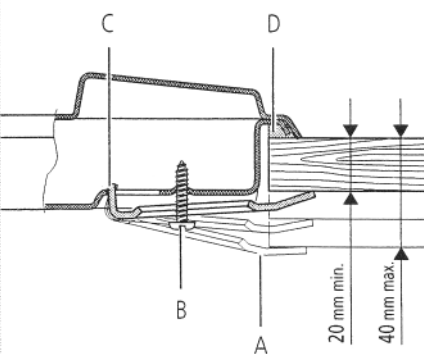
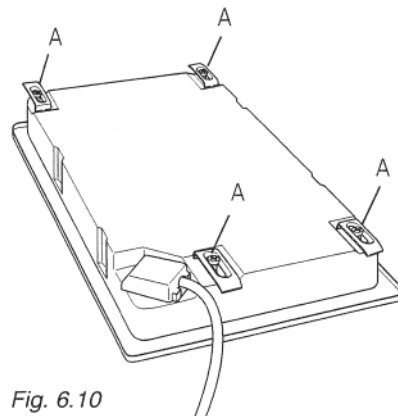

Fig. 6.11
Fig. 6.10
Each cooker top is provided with an installation kit including brackets and screws for fastening the top to fixture panels from 20-30 to 40 mm thick, figs. 6.11 (2 electrical plates hob).
- Turn the cook top over and put tabs "A" (fig. 6.10) into the mountings, only tighten screws "B" a few turns. Make sure that the tabs are mounted correctly as shown in the figures 6.11 and 6.12. Turn the tabs so that the cook top can be put into the hole.